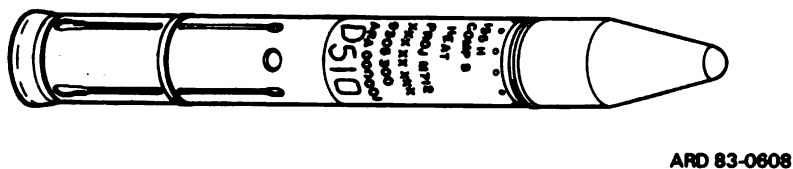

Figure 211.14.4. Projectile, 155-mm, HEAT, M712.
(18) *Projectile, 155-mm, HEAT, M712 (fig. 211.14.4).* This projectile is a cannon-launched guided projectile. It is a high-explosive antitank (HEAT) projectile loaded with 14.75 pounds (6.69 kg) of composition B. It is guided to its target by a laser beam directed on the target from a laser designator. The projectile has five, time and code switches, set by the crew prior to firing. The warhead section of the projectile contains its own base-detonating fuze (M740). The projectile is 54 inches (137.16 cm) long, and weighs 138 pounds (62.60 kg). Details on use of M712 projectile begin on page 212.23.